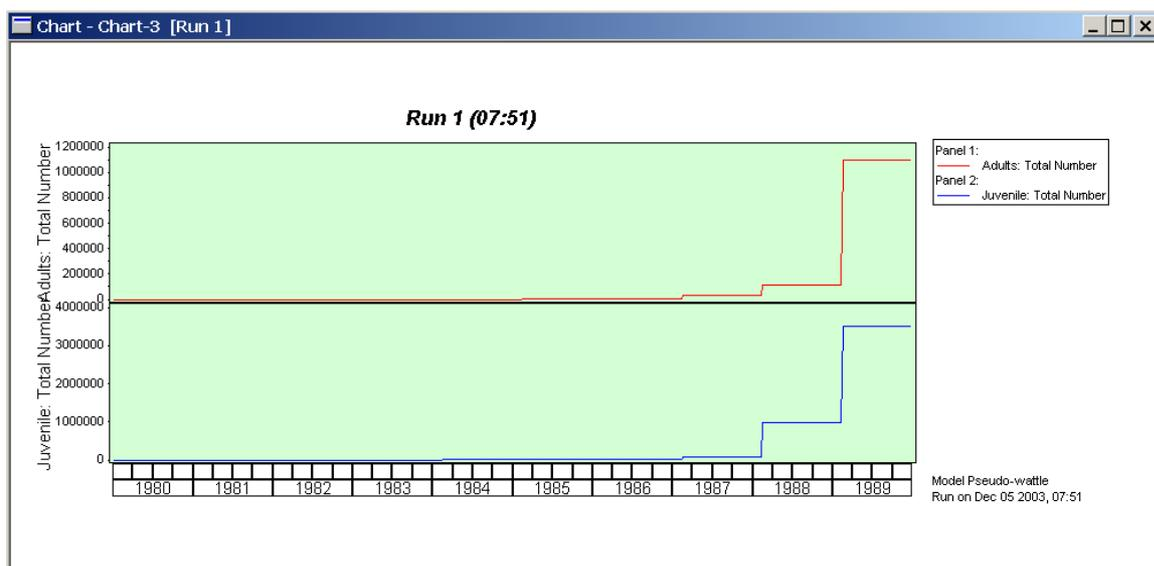

Figure 1.23 Pseudo-wattle Chart Output
10. Select **'OK'** and the chart will now be displayed. It should be similar to Figure 1.23.
The chart very clearly shows how each chart can be used to display the output data. Frequently, as happens in Figure 1.23, totals are so large that only the final year's scores are displayed on natural number charts. Logarithmic charts are able to show the steady increase in population numbers much more clearly and the method of producing these is demonstrated in section 1.6.3.